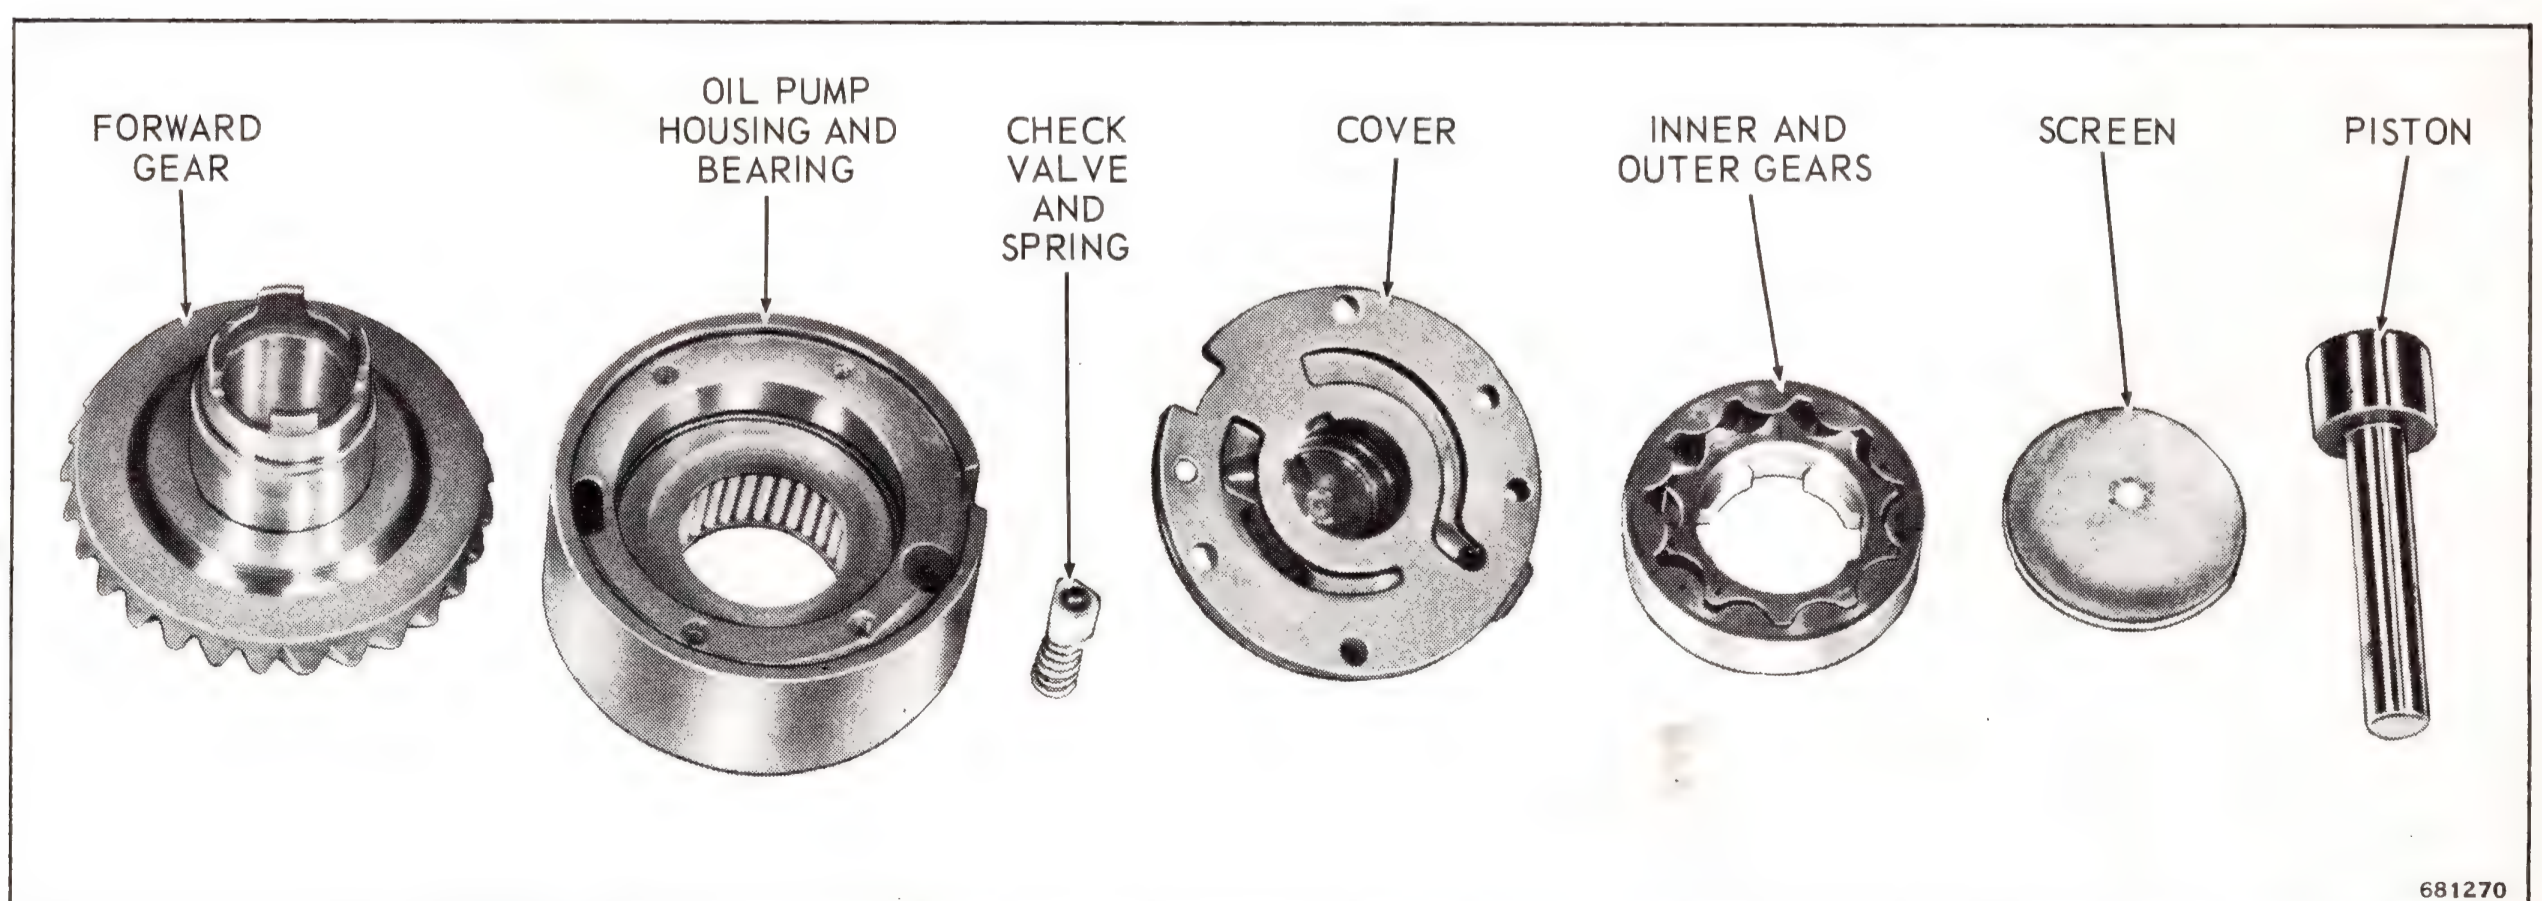

Figure 6-27. Oil Pump Disassembled
d. Remove check valve and spring and pump gears. See Figure 6-27.